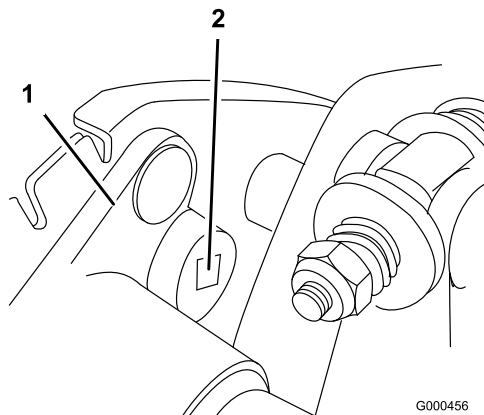

Figure 33
- B. Using a 3/8 inch drive torque wrench, rotate the bearing housing with 35-40 in.-lb. of torque to set belt tension (Figure 33)